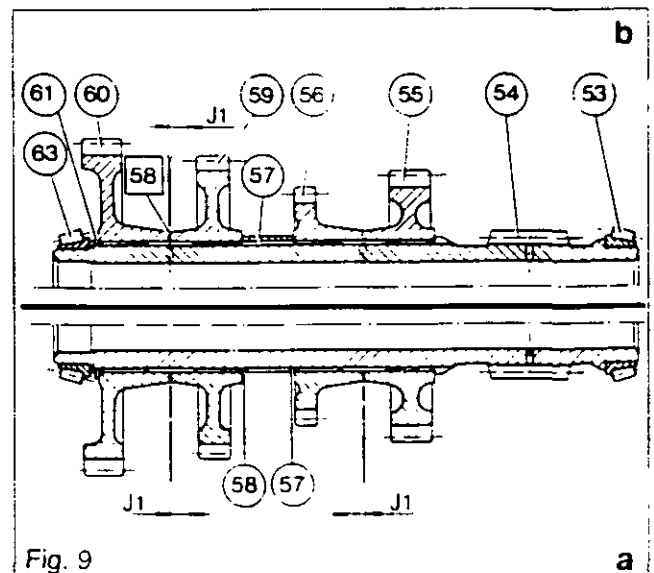

Fig. 9
**Clearance J1 is set by machined tolerances (Fig.9).**
As a function of the gap measured, select shims of a thickness to give (Fig.9) :